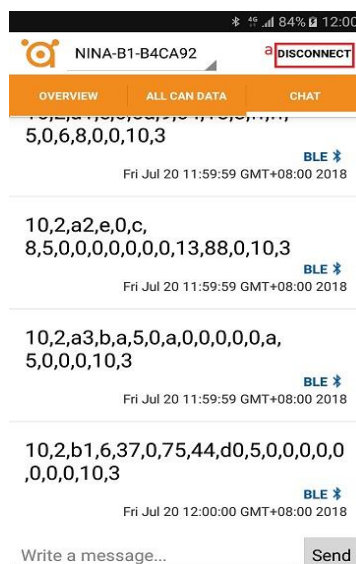

Figure 9
1. Click “DISCONNECT” button as Figure 9(a).